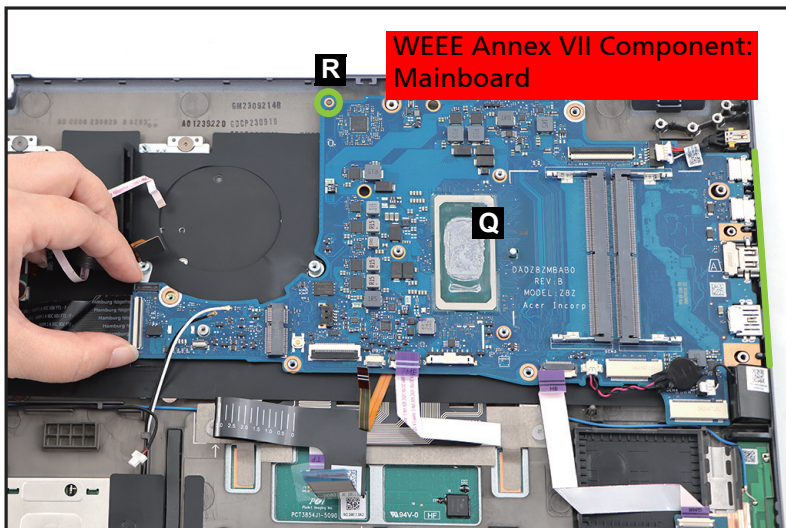

Figure 1-59. Mainboard Removal
16. Release the mainboard (Q) from the I/O ports slots and guide pin (R) on the top assembly (Figure 1-59). Then remove the mainboard.